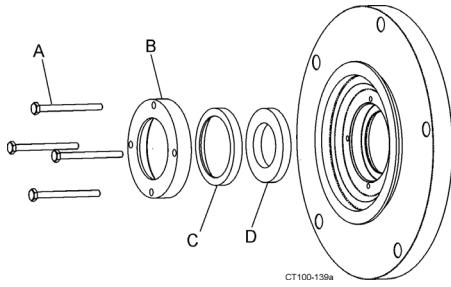

Figure 25 - Stationary Seal Assembly
4. Insert L-gasket (Figure 25, item D) into backplate seal cavity.
5. Place stationary seal into L-gasket. (Figure 25, item C and D).
6. Place seat retainer over stationary seal and secure retainer with four 1/4-20 x 1/2 inch hex head cap screws. (Figure 25, item B and A).